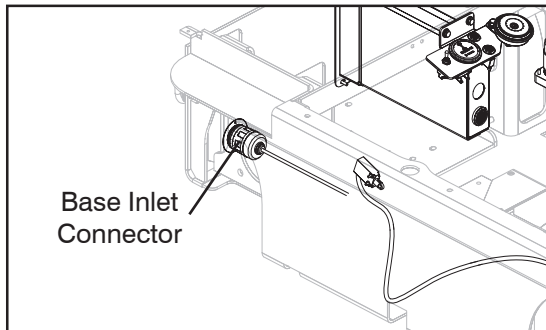

Figure 5-32. Base Power Inlet Installation
11. Fish all power inlet electrical wires through a rubber boot and install the base power inlet. See Figure 5-32.